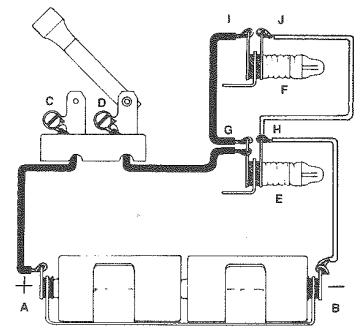

Figure 2. Completed parallel circuit
- Lay out the circuit path (Figure 2). Use the black wire for the positive side of the circuit (+ end of the battery). With the wire strippers/cutters, carefully remove about ½ inch of insulation from each of the wires.
- Attach a black wire to the positive (+) terminal (A) of the battery clip and run this under the screw on the open side (C) of the knife switch. Always wrap wire clockwise around screws. Tighten the screw.
- Attach one black wire under the screw on the knife blade end (D) of the switch, and run to the back terminals (G & I) of the lamp sockets (E) & (F)
- Attach a white wire the front terminal (J) of lamp socket (F) and run it to the front terminal (H) of lamp socket (E). Attach a second white wire to front terminal (H) of lamp socket (E) to the negative (-) terminal of the battery clip (B).
Trace the circuit pictured in Figure 2. Electricity is flowing to each bulb equally. This amount is the same that would go to a single bulb circuit. The only difference between a two-bulb circuit and a one-bulb circuit is that in the two-bulb circuit, the battery will only last half as long as in the one-bulb circuit.